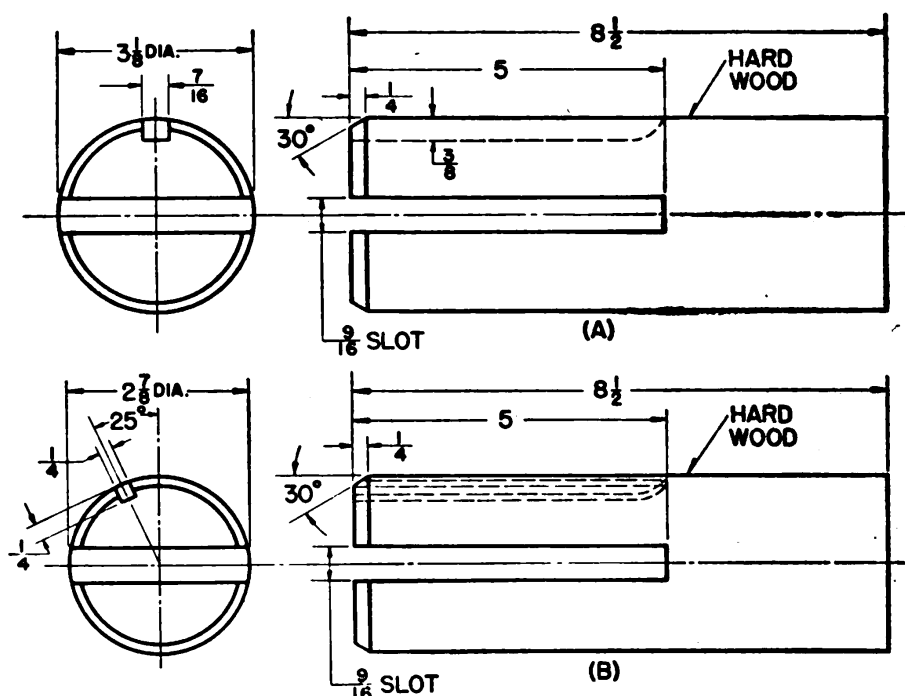

Figure 67.—Wooden plugs for removing venturi from carburetors NA-R9B and NA-R9C2.
If necessary to remove the venturi tube, drive it out with a wooden plug made somewhat as shown in figure 67, the plug for a NA-R9B carburetor being shown in view (A), and that for the NA-R9C2 in view (B).